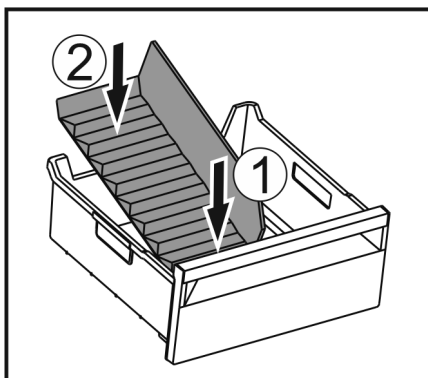

Fig. 193
- Insert the front part of the ice compartment divider. Fig. 193 (1)
- Lower the rear part of the ice compartment divider to the drawer bottom. Fig. 193 (2)